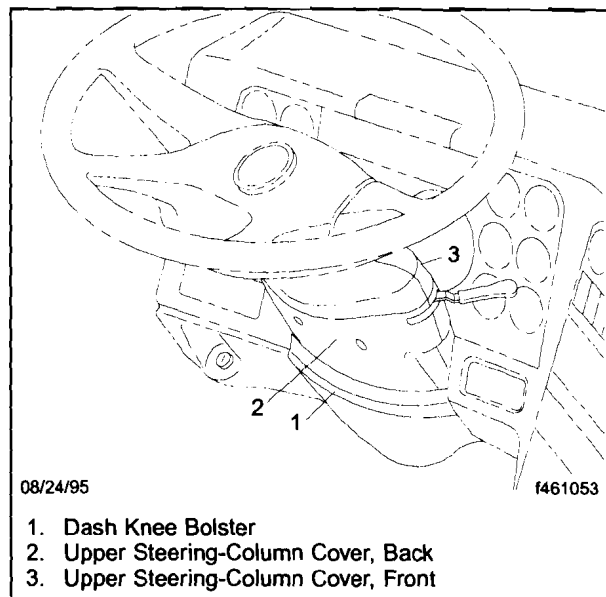

Fig. 2, Tilt Steering Column, Left-Hand Drive Shown
4. Remove the fasteners that hold the back upper steering-column cover to the the steering column, then remove the cover. **Fig. 2**
4. Remove the steering column covers and knee bolster. See **Fig. 2**.
22. Install the dash knee bolster and position the steering column cover panels on the front and back of the column. Both panels have fittings that should snap into the column. Install two fasteners and attach the two panels together. See Fig. 2.